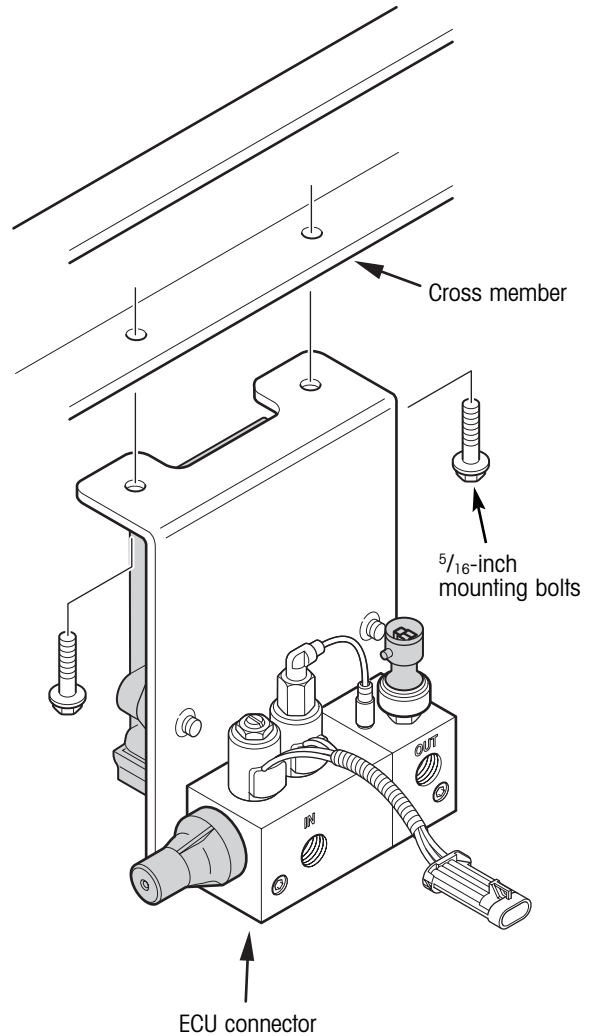

Figure 17. Controller assembly installation
2. Drill two holes on four-inch centers to accommodate the mounting bracket. Attach the controller assembly with two ⁵/₁₆-inch fasteners (figure 17).
⚠ CAUTION: The controller assembly must be mounted vertically with the ECU connector down (figure 17). This properly orients the exhaust port to prevent damage.